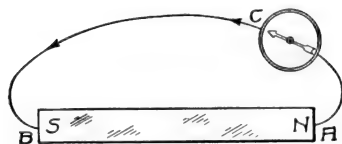

Fig. 7. Method of Plotting Lines of Force in Magnetic Field
**Magnetic Lines of Force.** If we could separate the  $N$  from the  $S$  pole of a small magnet so as to obtain an independent  $N$  pole and were then to place this  $N$  pole near the  $N$  pole of a bar magnet, our free  $N$  pole would move over to the  $S$  pole of the bar magnet along some curved path similar to that shown in Fig. 7. The reason
Any path which an independent *N* pole would take in going from *N* to *S* is called a *line of magnetic force*. The simplest way of finding the direction of this path at any point near a magnet is to hold a compass needle at the point considered, for the needle must obviously set itself along the line in which its poles would move if independent, that is, along the line of force which passes through the given point *C*, Fig. 7.